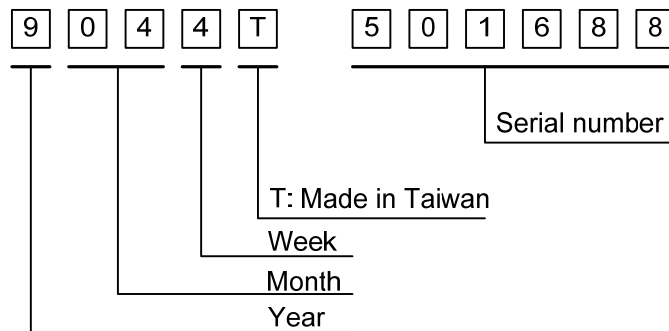

Fig. 13.1
1) The lot mark is showing in Fig.13.1. First 4 digits are used to represent production lot T represented made in Taiwan and the last 6 digits are the serial number.